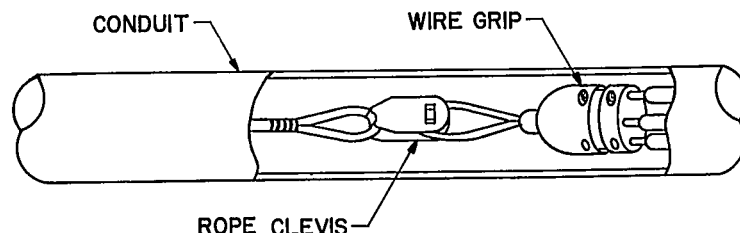

Fig. 15 Cable Grip Attached to Power Wire (Par. 6.1)
6.1 The cable grips used for pulling wire through conduit differ from those provided for pulling wire over cable rack. Three sizes are provided, small for 2" and 2-1/2", medium for 3" and 3-1/2" and large for 4" and 5" conduit. Up to 4 wires may be pulled simultaneously. Figure 15 shows a wire grip with several conductors attached to the pulling rope and rope clevis.